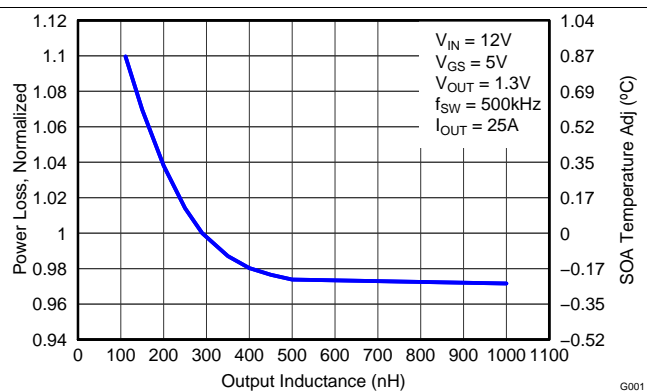

Figure 8. Normalized Power Loss vs Output Inductance
- Normalized Power Loss for output inductor ≈ 1.03 (Figure 8)
- SOA adjustment for output inductor $\approx 0.3^\circ\text{C}$ (Figure 8)